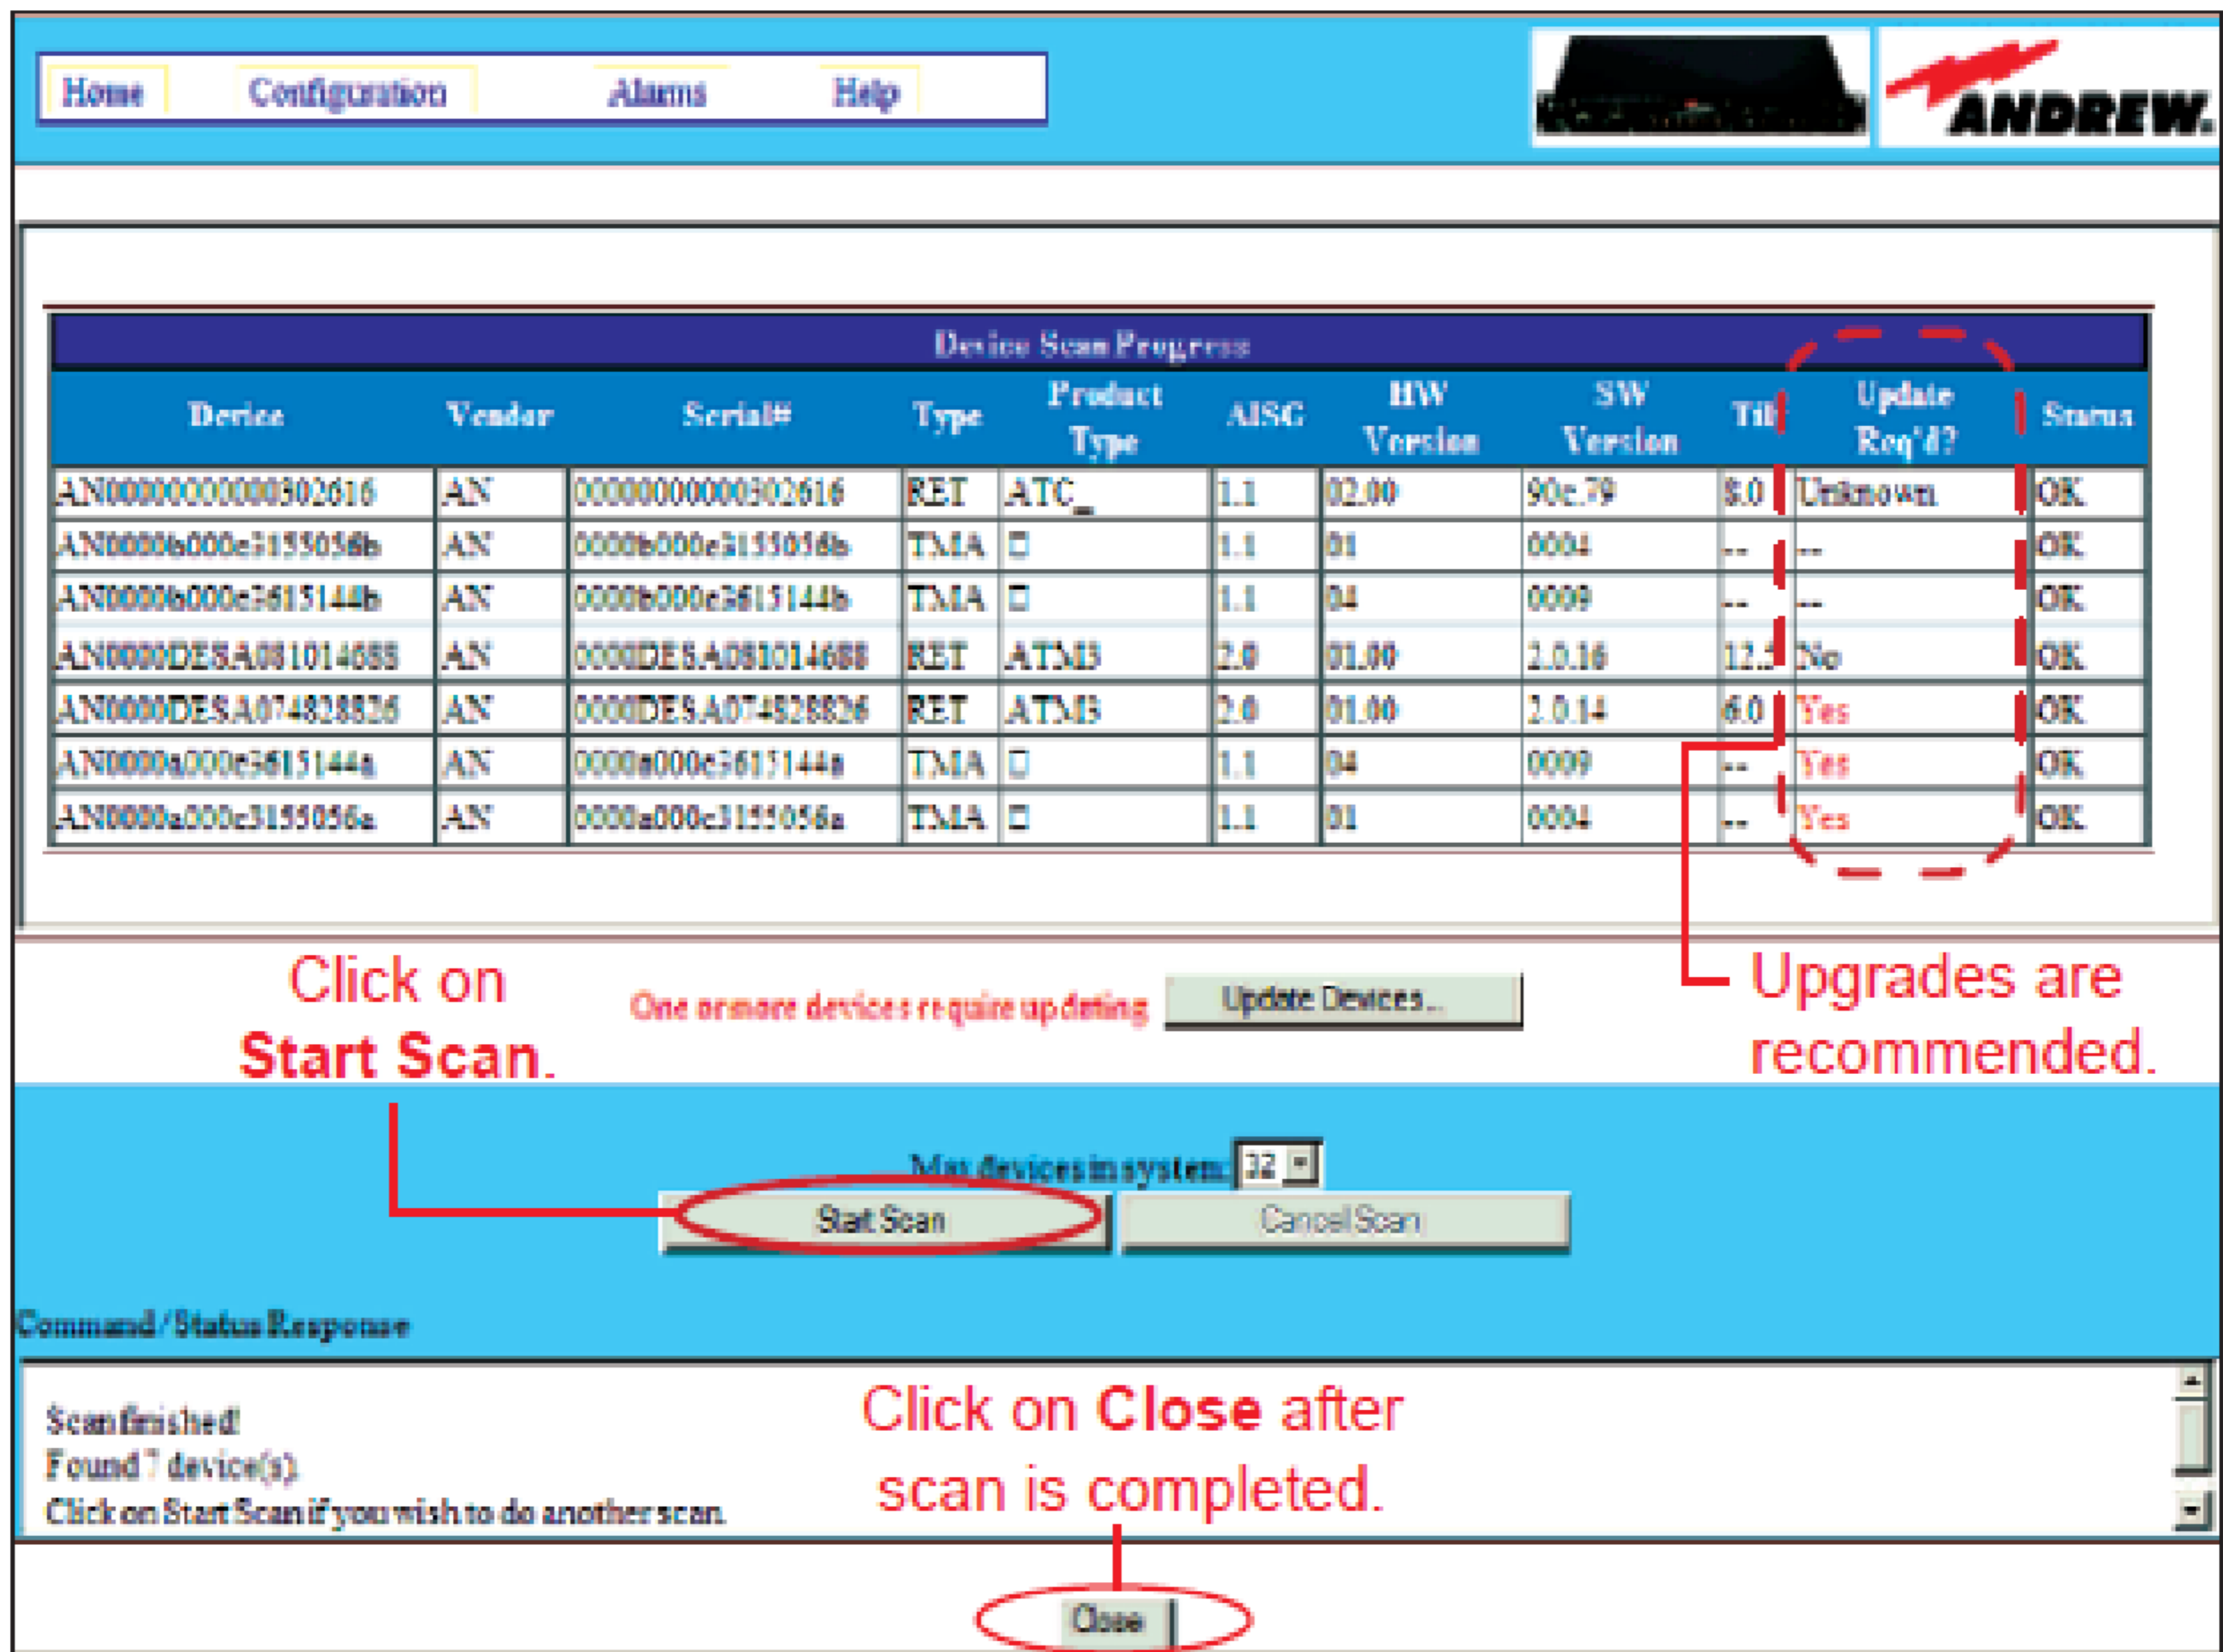

Figure 2-3. Searching for Devices.
- Click on **Start Scan** on the **Device Scan Progress** screen (Figure 2-3).